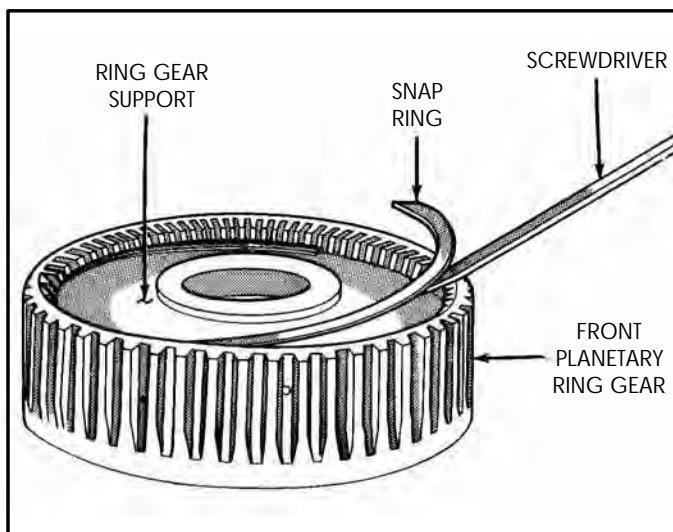

Figure 64
4. Remove the snap ring retaining the ring gear support in the ring gear (See Figure 64).
9. Install the front snap ring into the groove in ring gear and ensure that it is fully seated using a screwdriver, as shown in Figure 64.